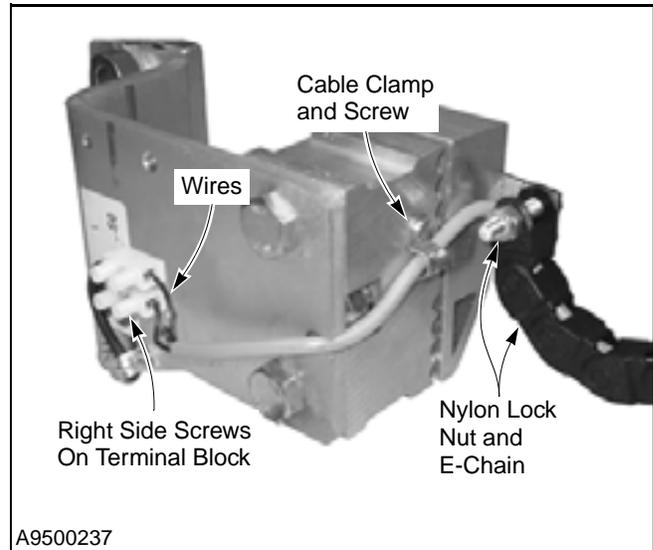

Figure 56
13. Insert wires into terminal block and tighten screws. (See Figure 56.)